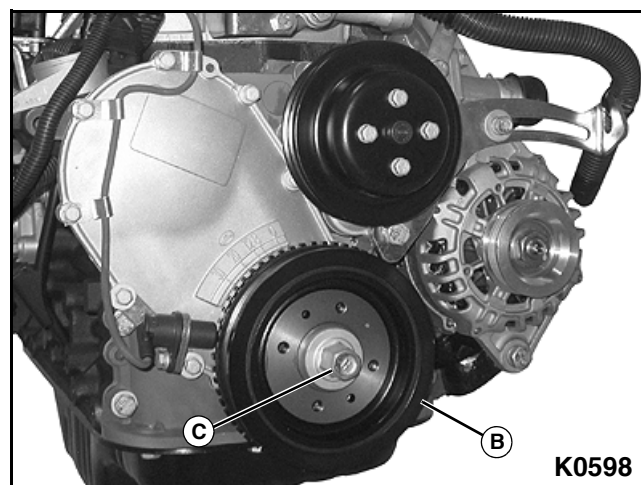

Figure 3-88
3. Install crankshaft vibration dampener mounting bolt (C) to crankshaft and dampener (B). **See Figure 3-88.**
4. Torque crankshaft vibration dampener mounting bolt to specification. **See Figure 3-88.**